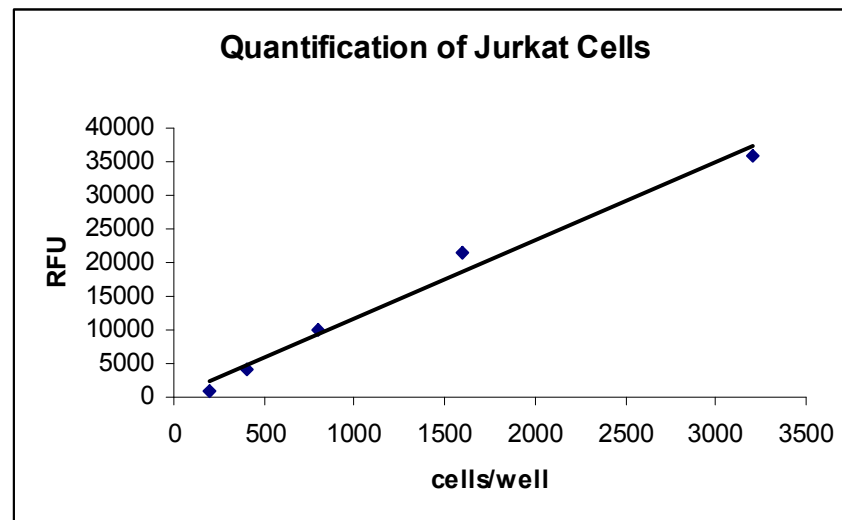

Figure 1. Calcein AM Quantification of Jurkat Cells
8. Record fluorescence using a 490 nm excitation filter and a 520 nm emission filter. The fluorescence intensity is proportional to the number of viable cells (see Figure 1, page 4).
4. Add 50 μl per well of freshly prepared 2X Calcein AM Working Solution (see Section V, item 2 for preparation).
6. Record fluorescence using 490 nm excitation filter and a 520 nm emission filter. The fluorescence intensity is proportional to the number of viable cells (see Figure 1 below).